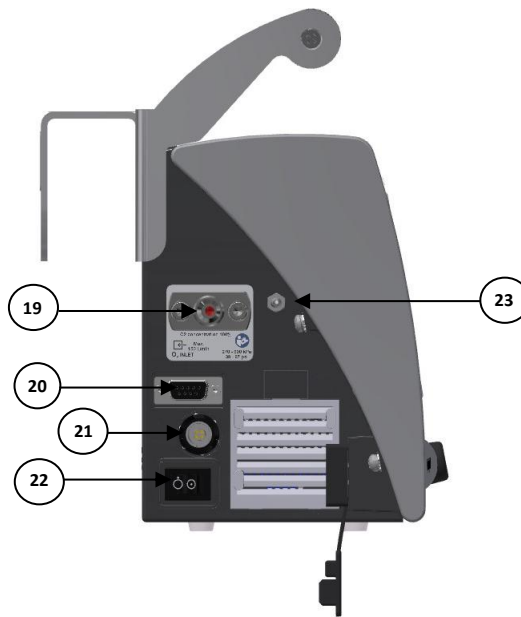

Figure 5: Left side view
- Open the Ethernet port cover (Figure 5, item 20) and connect the Ethernet network cable to the ventilator and the remote device of the responsible organization.
- Turn on the remote device, turn on the ventilator using the on/off switch (Figure 5, item 22) and select the patient type.
Description of the items in Figure 5